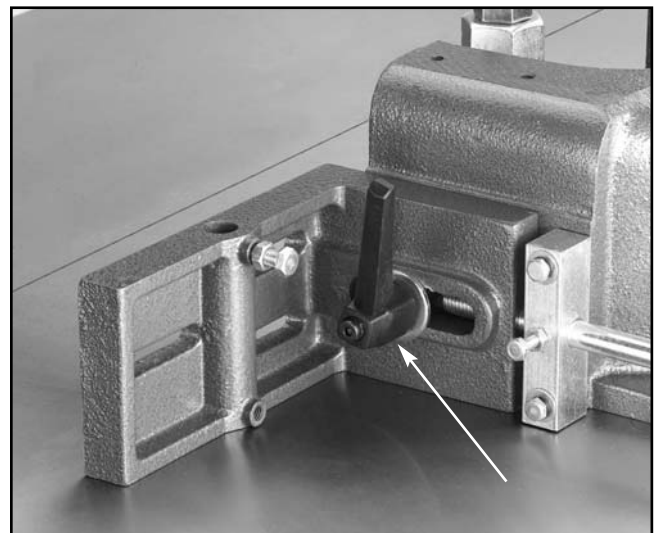

Figure 15. Adjustment handle.
2. Insert the adjustment handle (**Figure 15**) into the fence bracket, and thread it into the guard body.